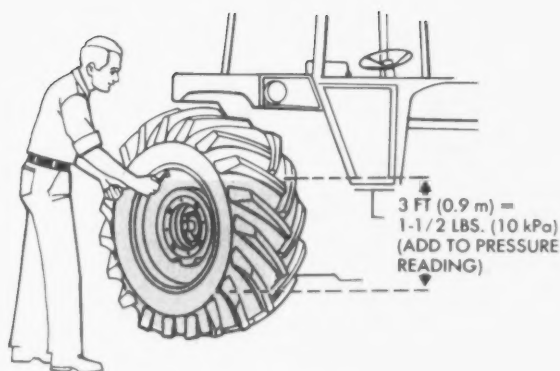

Fig. 47—Optional Method Of Checking Air Pressure With Valve Stem At Top
If it is impossible or undesirable to check the pressure with the valve stem at the bottom, locate the stem at the top (Fig. 47).
1. If the tire contains ballast, be sure the valve stem is positioned correctly as described in the rules above, or use the method shown in Fig. 47.